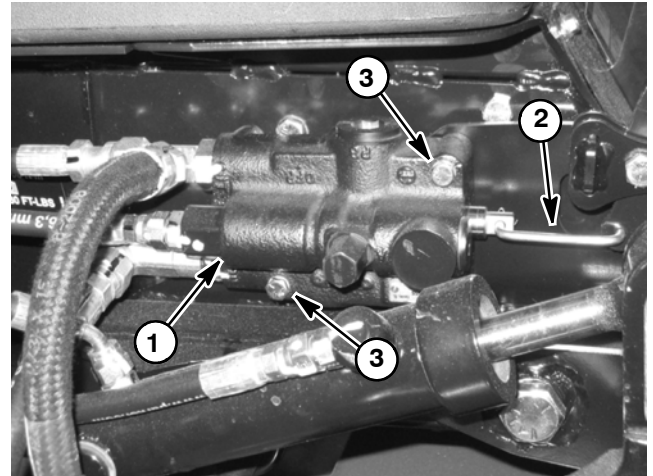

Figure 100
5. Remove cotter pin that secures lift lever valve link to control valve spool (Fig. 100). Slide link from spool.
7. Remove two (2) cap screws, lock washers and flat washers that secure lift control valve to machine (Fig. 100). Remove control valve.
2. Position lift control valve to machine frame and secure with two (2) cap screws, lock washers and flat washers (Fig. 100).
3. Attach lift lever valve link to control valve spool and secure with cotter pin (Fig. 100).